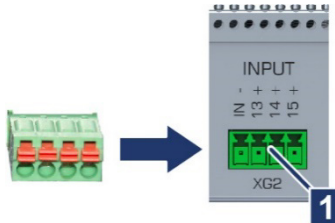

Fig. 6-5: Inserting the terminal block into *XG2* (*INPUT 13-15*)
1. Insert the suitable terminal block into the terminal *XG2* (*INPUT 13-15*) on the X-Controller (→ Fig. 6-5/1).